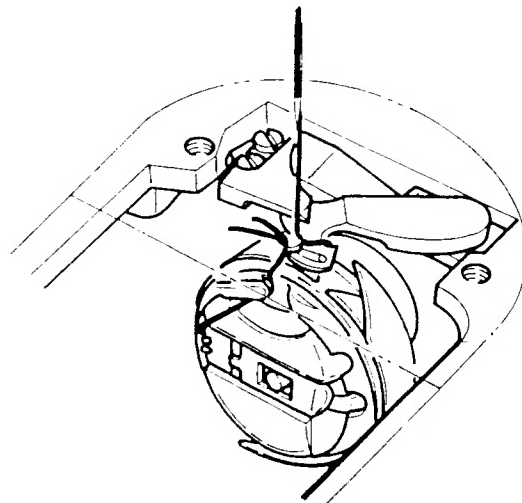

Fig. 62
5. As the needle thread is cast off the rotating hook, it catches on the hook portion of the thread puller. (Fig. 62)